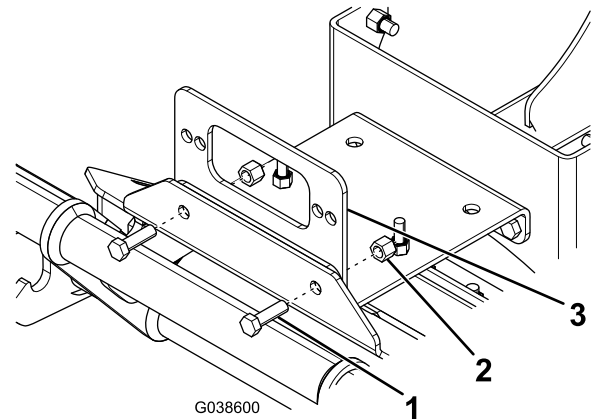

Figure 7
11. If necessary, secure the optional front plate to the plow skid plate using the existing 2 bolts (3/8 x 1-1/4 inch) and locknuts (3/8 inch) on the front winch bracket (Figure 7).